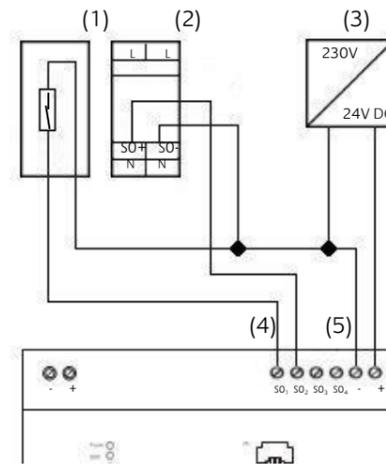

Figure 2: Connection diagram S0
- When using S0: Connect 24 V DC with the connecting terminal for the voltage supply of the S0 interface (figure 2, 5). **Do not connect 230V!**
- Connect S0 devices to S0 interfaces as follows (see figure 2, 4).